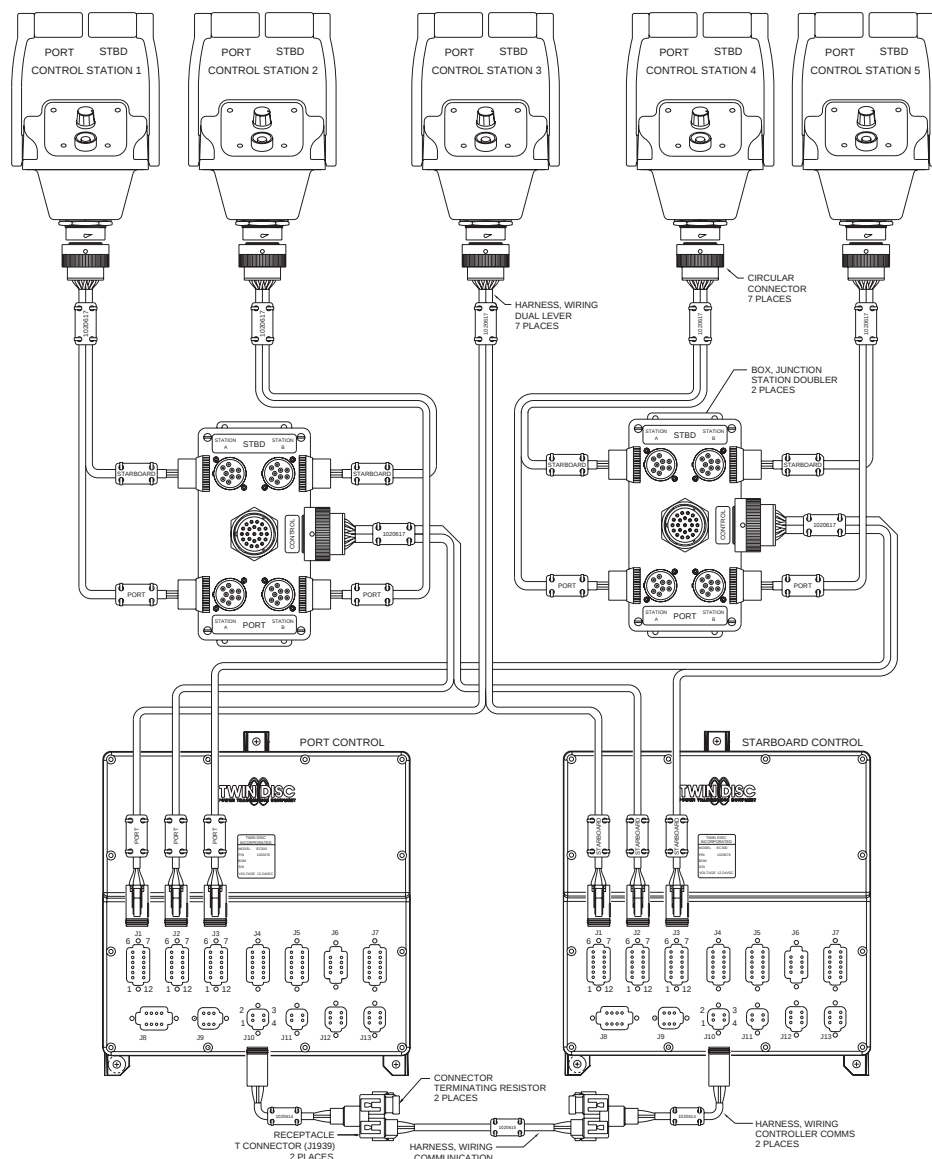

Figure 33. Typical Five Station Dual Lever Control Head Wiring
This section is applicable to multiple engine applications with more than three (3) Dual Lever Control Heads per EC300 Control. Each EC300 Control can directly accept up to three Control Head inputs. Using Station Doublers, a total of five Control Head inputs can be supported. Each Station Doubler combines the signals from two separate Control Heads and routes the combined signals to each of the EC300 Controls at J2 or J3. See Figures 33 and 34.
Figure 33 shows five Control Heads and two Station Doublers. The control head not connected to a station doubler must be connected to J1.
19. Route a bond wire from the vessel bonding system to the selected mounting pad on each Station Doubler. See Figure 33.